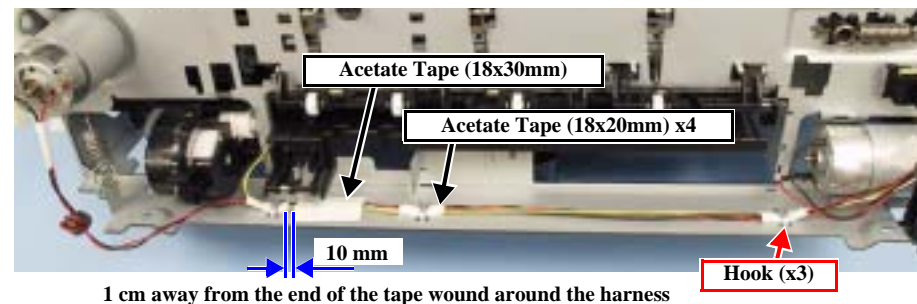

Figure 4-66. Removing the CR Motor Harness
- When the CR Motor has been replaced with a new one, wind acetate tape (18x20 mm) x4 around the harness as shown. (Fig. 4-66)